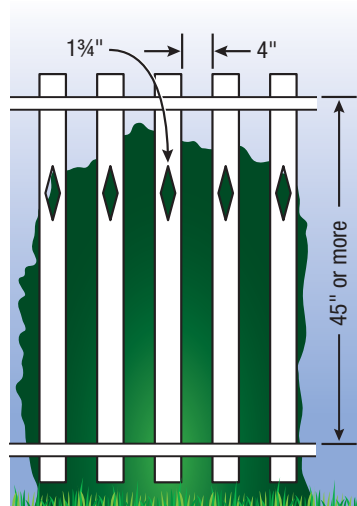

Figure 4
7. **Spacing between vertical members** should not exceed 1¾ inches in width. Where there are decorative cutouts, spacing within the cutouts should not exceed 1¾ inches in width (figure 4).